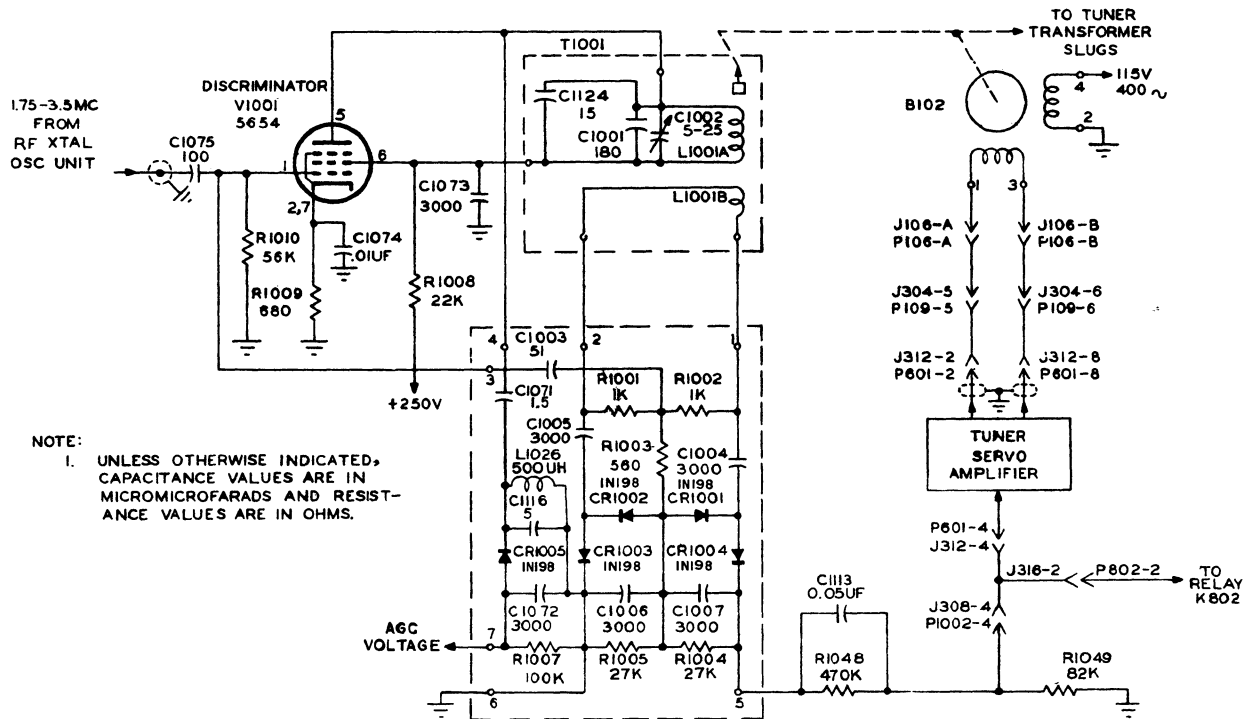
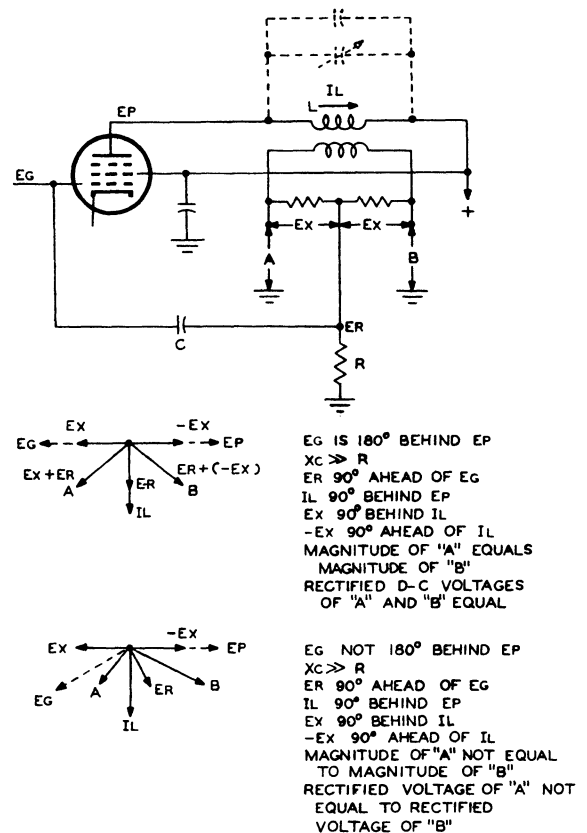

Figure 4-21. Tuner Unit, Phase Discriminator Circuit, Simplified Schematic Diagram
Figure 4-22. Tuner Unit Phase Discriminator, Functional Diagram
4.9.3.5.2 PHASE DISCRIMINATOR CIRCUIT. With the slug rack centered, the phase discriminator circuit now functions. A simplified schematic diagram of the circuit is given in figure 4-21. One of the crystals in the r-f crystal oscillator has been selected previously by operation of the Remote Control Unit. Oscillator output for this particular crystal is fed through capacitor C1075 to the control grid of discriminator tube V1001. This voltage is amplified and appears across a tuned circuit in the plate of V1001. A Foster-Seeley type discriminator circuit is coupled to the grid and plate of V1001. Operation of this discriminator circuit is based upon the fact that the grid and plate voltages of V1001 are 180 degrees out of phase at resonance. The circuit consists of the secondary of transformer T1001 (L1001B), crystal diodes CR1001 through CR1004, and associated resistors and capacitors. The phase relationship of the grid and plate voltages is sampled, and variations from 180 degrees appear as a d-c control voltage in the discriminator output. A functional diagram of the discriminator and of its phase relationships is shown in figure 4-22.